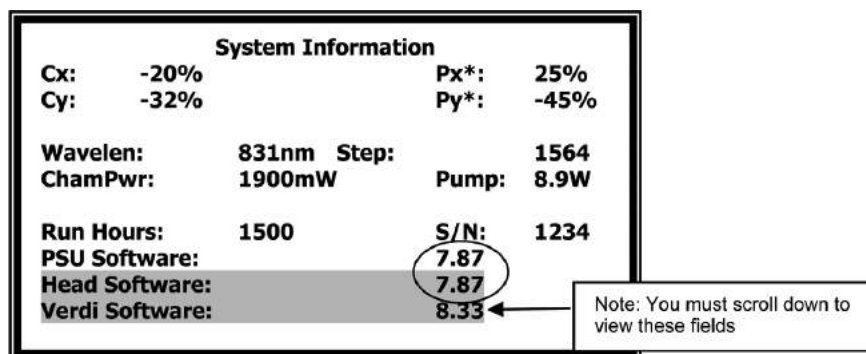

Figure 5.4-1. System Information Screen
1. Before starting the software upgrade, verify the current Chameleon software version on the System Information screen (see Figure 5.4-1).
10. Check the Chameleon “System Information” display menu to insure that the new software was loaded correctly. See Figure 5.4-1.